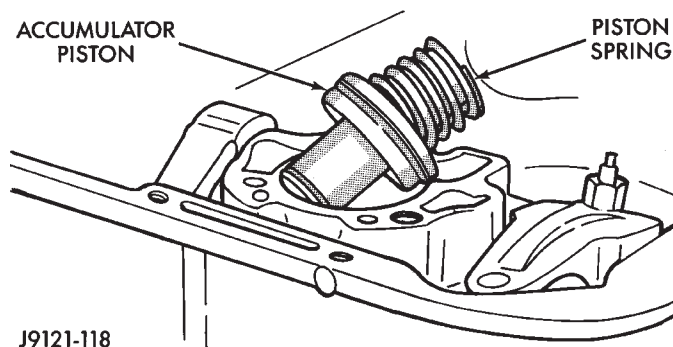

Fig. 8 Removing/Installing Accumulator Piston And Spring
(12) Remove accumulator spring and piston (Fig. 8).